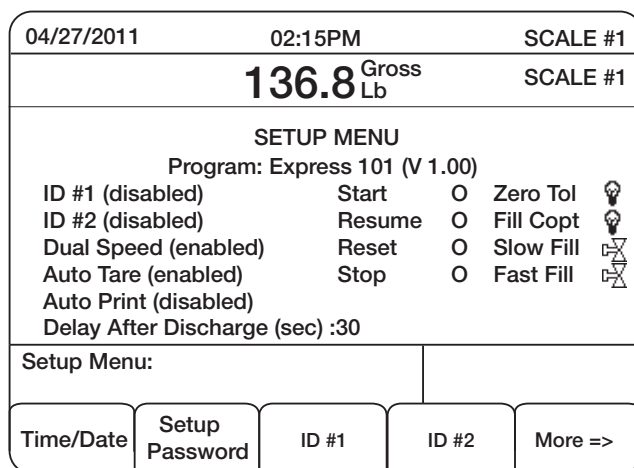

Figure 3-2. Setup Menu Main Screen
- If no system password is entered, the **Setup Menu Main Screen** will display (see Figure 3-2).
- If the password is valid the **Setup Menu Main Screen** will display (see Figure 3-2).
1. From the main setup menu screen, press the **Setup Password** softkey (shown in Figure 3-2).